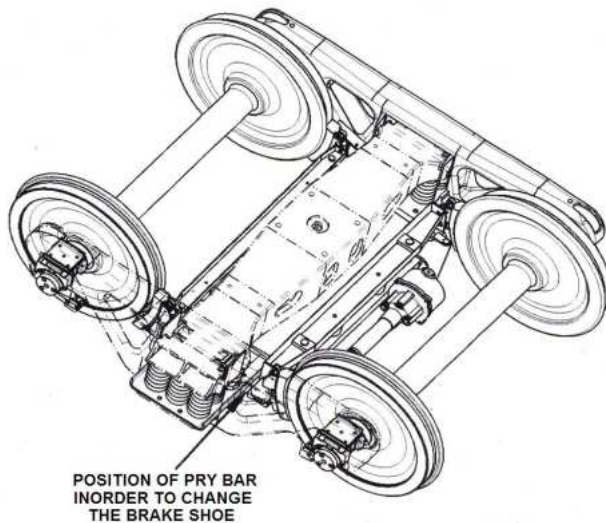

FIGURE: 17
Procedure for changing of Brake Blocks (Refer figure 17)
(See figure 17 & 18)
Bell Crank Lever Assembly RH (10) & LH (18) (See figure 17)
Push Rod (3) (See figure 17)
Brake Beams 1 A & 1 B (See figure 17 & 19)